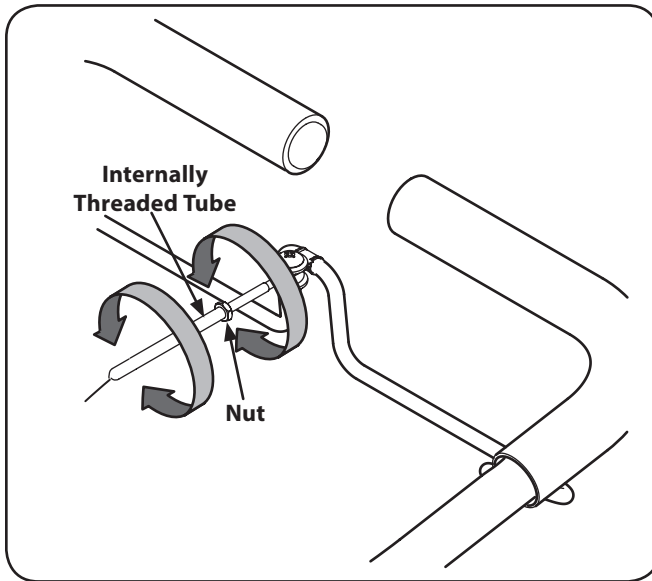

Figure 3-8
6. Carefully engage the clutch by lifting the clutch control bail against the handle. The wheels should spin. If the wheels do not spin with the tiller in forward, adjust by un-threading the tube at the end of the cable a few turns counter-clockwise, when standing in the operator's position. See Figure 3-8.